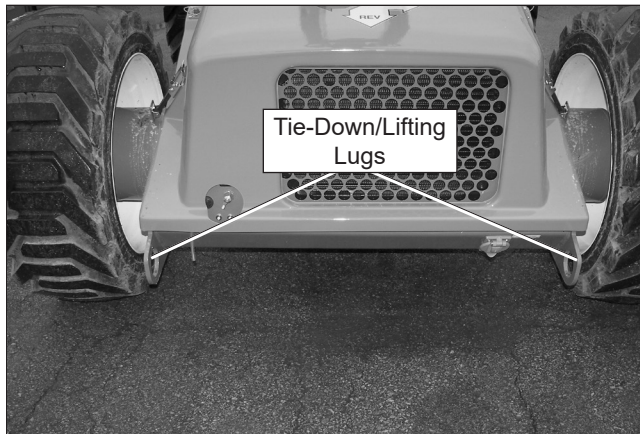

Figure 9.4 – Rear Tie-Down/Lifting Lugs
2. Inspect the front lifting lugs (refer to Figure 9.2) and the rear lifting lugs (refer to Figure 9.4) to make sure they are free of cracks and are in good condition. Have any damage repaired by a qualified service technician before attempting to hoist the machine.